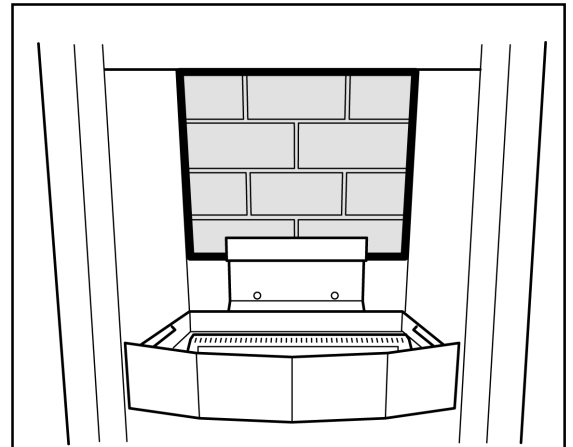

Figure 26 Ceramic Rear Wall Position
1. Fit the ceramic rear wall into the bracket at the back of the firebox. See figure 26.